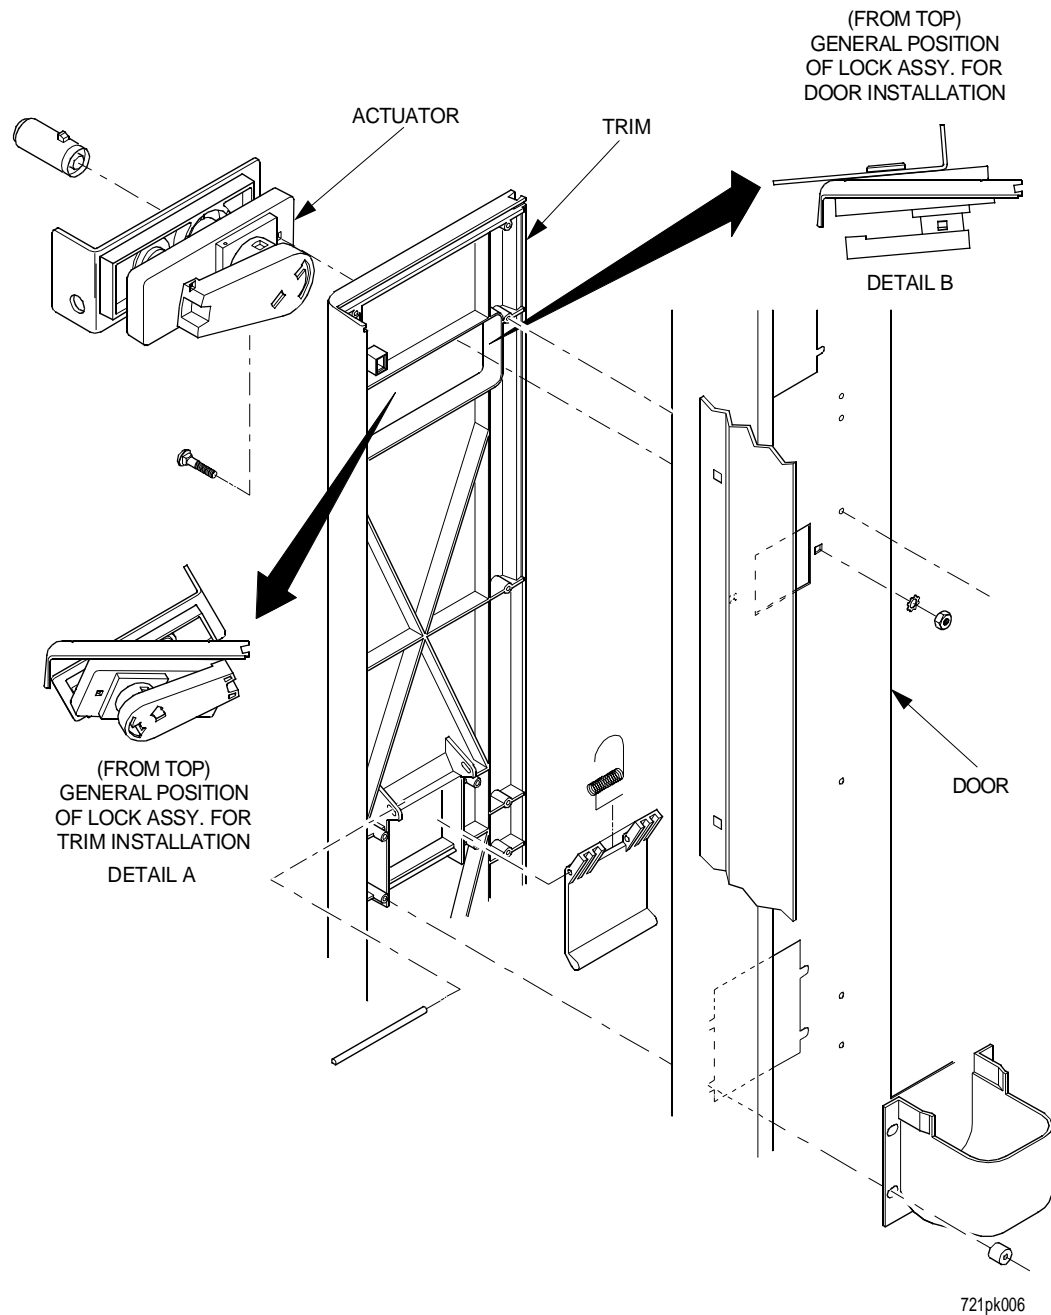

Figure 2
5. Push locking actuator and lock handle base on the new lock assembly provided through the rectangular hole in the trim piece that was removed (see figure 2, detail A).
7. Push the actuator on new lock assembly provided through the hole in the main door and align it with the drive pin in the locking bar. Position the back of the lock base into the hole in the main door for assembly (see figure 2, detail B).